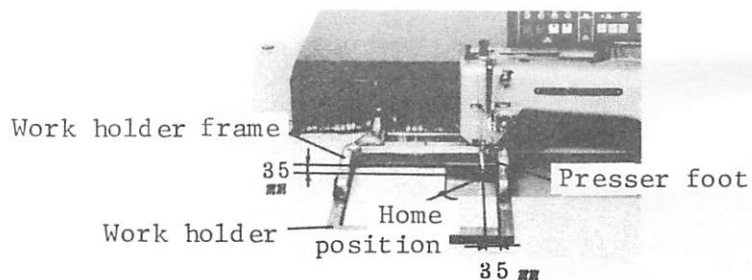

Fig. 5.2
- 5.8 The dimensional relationship between the work holder and its home position is shown in Fig. 5.2.
When the needle position is other than UP position, the needle automatically goes up and the work holder returns to the home position (see Fig. 5.2).